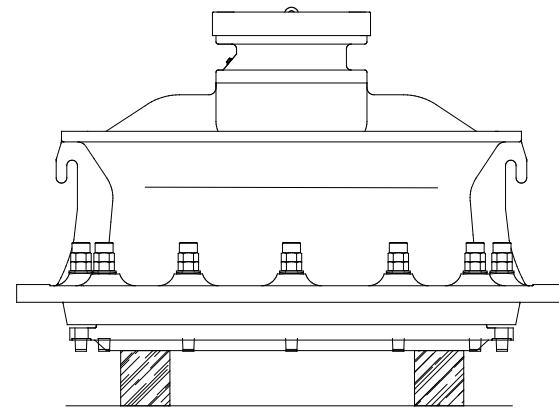

Fig. 6.3.2
2. Place the top frame on 2 wooden blocks having a height more than the length of the concave mounting bolts. (Fig. 6.3.2)